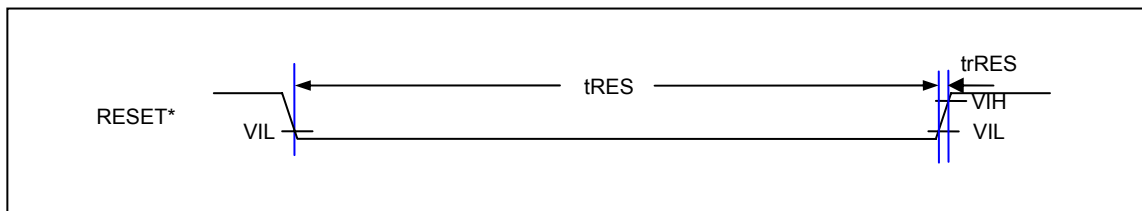

Figure 86 Reset operation
**Table 105** See Figure 86 (Condition: IOVcc = 1.65 to 3.30V, Vcc = Vci = 2.50 to 3.30V)